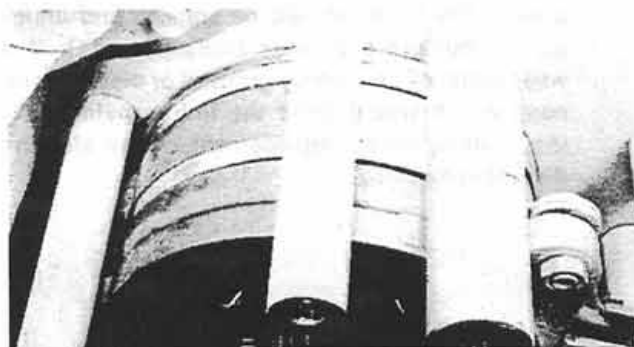
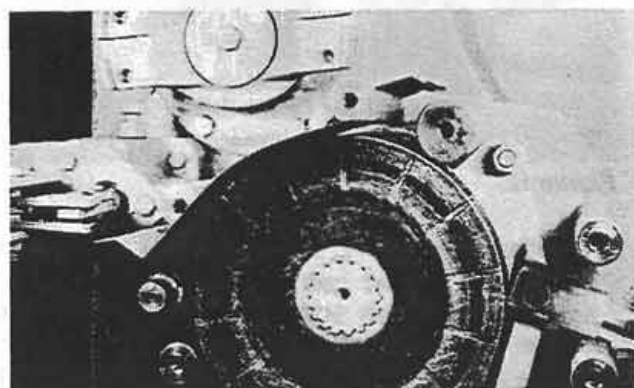

Figure 19:
Figure 20:
3. Install a brake disc, stationary plate, brake disc, actuator assembly (Fig. 19), disc, stationary plate, brake disc, slip-in shields, if used and outer brake plate in the order given (Fig. 20). If reassembly is done with reusable parts, maintain the order in which they were removed. Connect the brake lever, slave cylinder and park brake cable. If the slip-in type brake shields are used, install at this time.